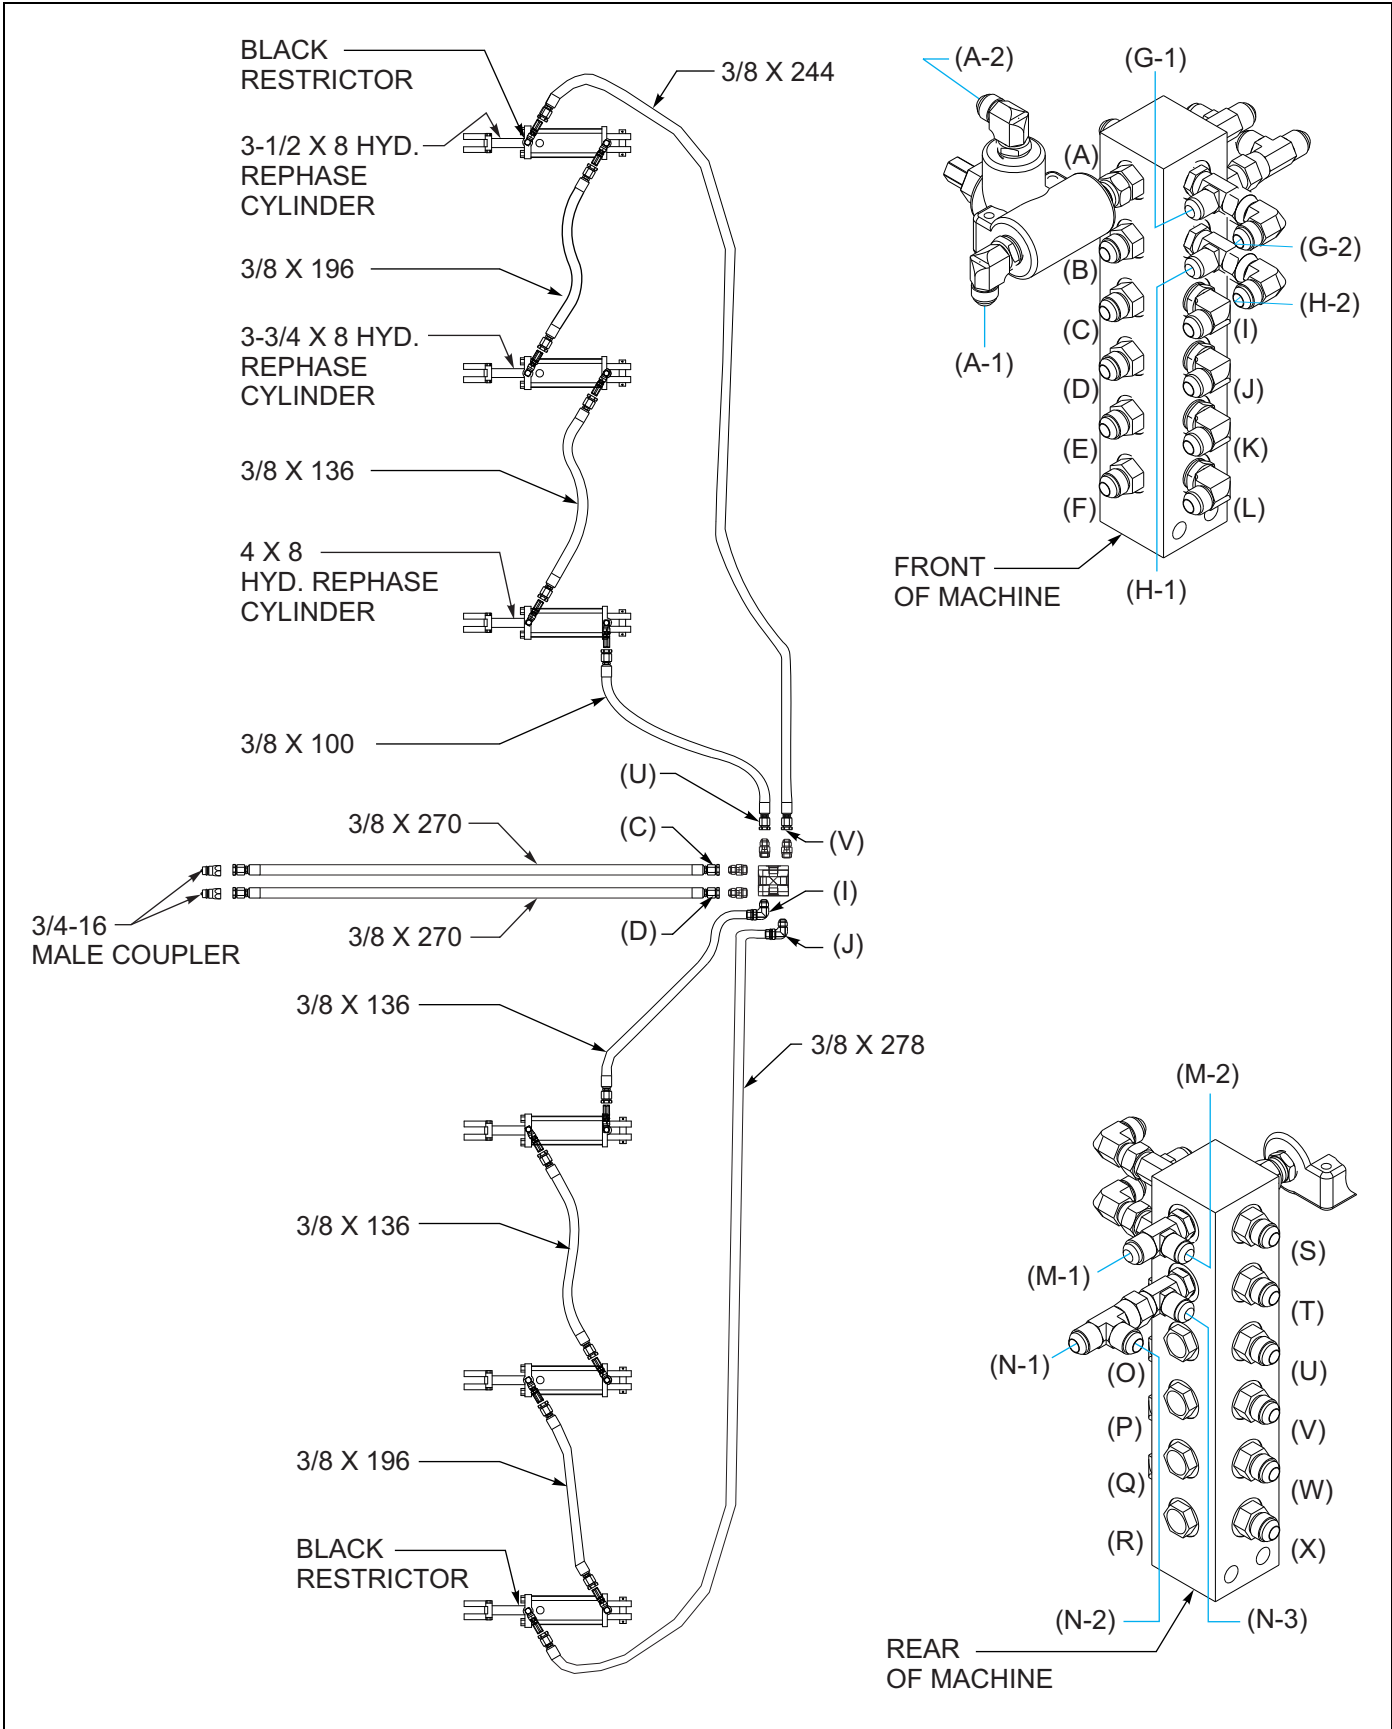

Figure 3-32: Hydraulic Gangs Installation - 38'
4. Install hydraulic disc gang adjustment cylinders as shown in **Figures 3-32 thru 3-34**. The center frame uses 4 x 8 cylinders, the inner wing is 3-3/4 x 8, and the outer wing is 3-1/2 x 8. Cylinders are installed with the base end attached to the adjustable link on the center frame and the rod is attached to the gang mount. Regular 90 degree fittings are used in all locations except for the rod end of the wing cylinders, where a black restrictor fitting is used on both sides.
- a. **See Figures 3-32 thru 3-34** for proper hose routing.
3. For the hydraulic gang adjustment – connect the gang cylinders hoses to the tractor and charge the cylinders with oil **(See Figures 3-32 through 3-34.)** Watch the disc gangs carefully when initially charging with oil to make sure the gang do not bottom out on the frame when cycling.